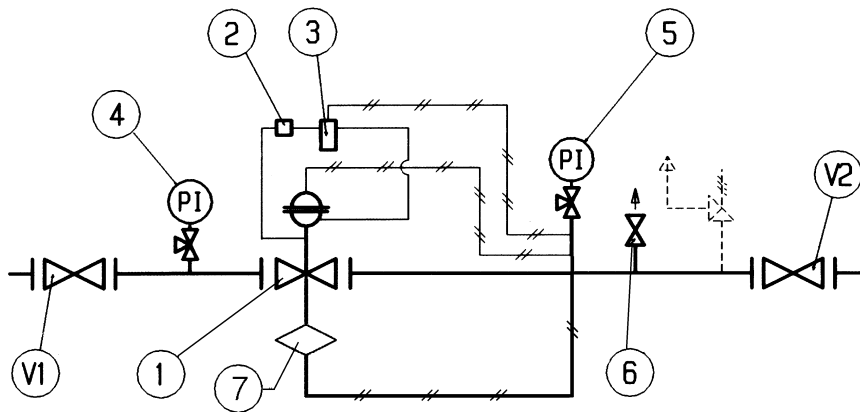

Fig. 12
6.1 MESSA IN SERVIZIO DEL REGOLATORE CON VALVOLA DI BLOCCO SB 87 INCORPORATA (FIG. 12)
6.1 COMMISSIONING THE REGULATOR WITH INCORPORATED SB 87 SLAM-SHUT (FIG. 12)